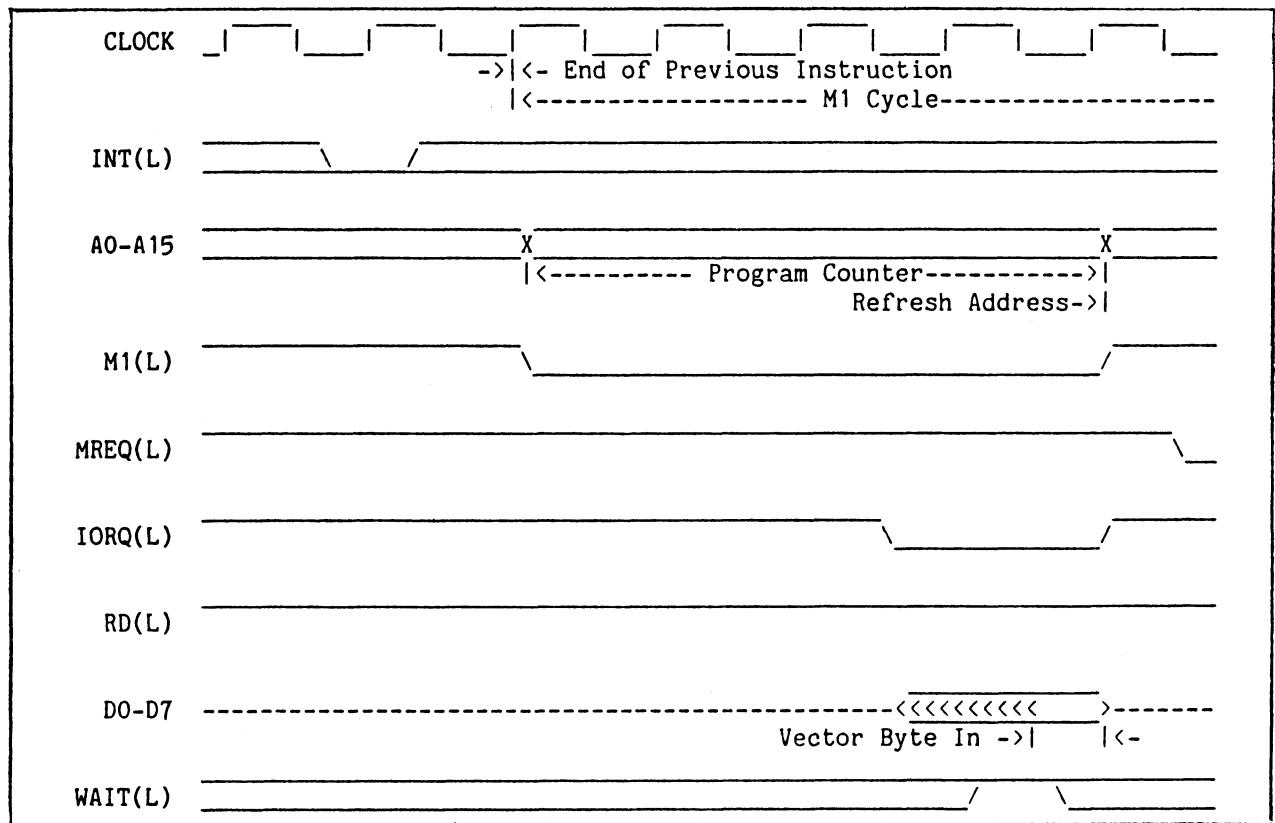

Figure 3-16. Interrupt Request / Acknowledge Cycle
The controller requests interrupts in program execution when either the IRQ(L) input or the NMI(L) input to the Z80 microprocessor is low. There are three possible ways that the Z80 can respond to IRQ(L), but only one is used in the 2280 Series. The interrupt method used requires the source of the interrupt to place the lower half of an interrupt vector on the data bus during an interrupt acknowledge cycle (see Table 3-1 and Figure 3-16).